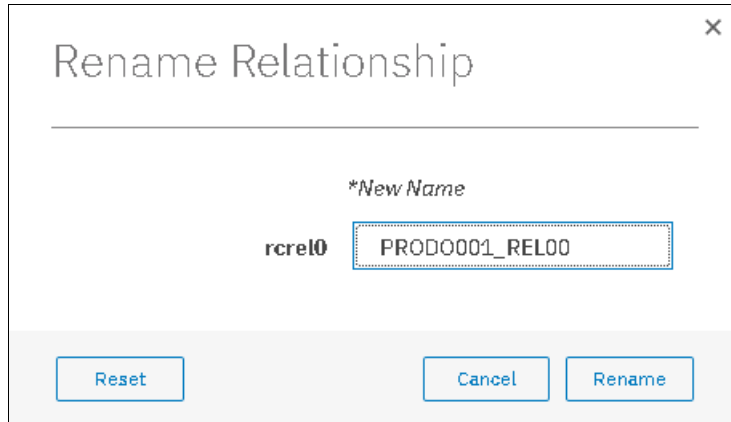

Figure 10-106 Remove a relationship from a Consistency Group
- In the Remove Relationship From Consistency Group window, click **Remove**, as shown in Figure 10-106.